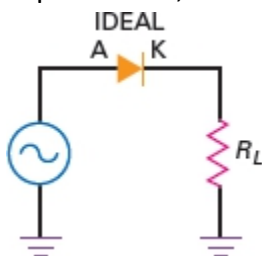

Figure-31 Ideal half-wave rectifier
- Figure-31 shows a half-wave rectifier circuit. The ac source produces a sinusoidal voltage. Assuming an ideal diode, the positive half-cycle of source voltage will forward-bias the diode. Since the switch is closed, as shown in Figure-32, the positive half-cycle of source voltage will appear across the load resistor.